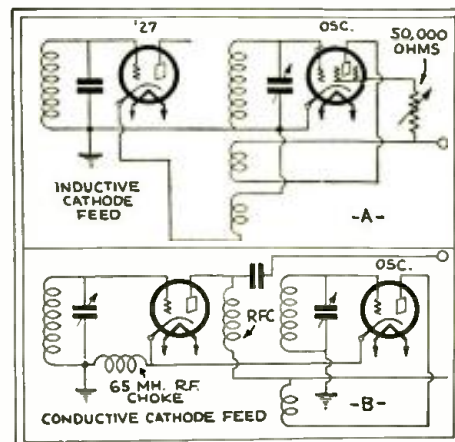

Fig. 3
A number of other systems were tried out, but the choice was finally narrowed down to the two methods shown in Fig. 3. Inductive cathode coupling was first used and, while efficient otherwise, had the effect of reducing the intensity of oscillation on the higher frequencies; necessitating the use of a '24 oscillator with variable voltage on the screen-grid (as shown in Fig. 3 at "A") or some other means of varying oscillation intensity. This means another knob to twist, and is objectionable in that respect; so the final choice is that shown in Fig. 3 at B. The choke R.F.C. is a regular B.C. unit and must not be bypassed. The writer advises that it be mounted directly on the oscillator tube socket without recourse to a mounting screw through its center; as a
Fig. 3 Above, general arrangement of the speech scrambler; below, the corresponding stages of the signal. A, natural speech-band; B, simple inverter-carrier; C, inverted-carrier, modulated; D, low-pass suppression; E, high-pass suppression; F, inverted sideband; G, demodulating carrier; H, inverted- or scrambled-speech-band, as transmitted
To avoid this difficulty, it is necessary to separate the direct and inverted speech sufficiently, in frequency, so that they can be filtered apart. A simplified sketch of the arrangement for doing this is shown in Fig. 3. The speech A (in the frequency graph below) modulates a 20,000-cycle carrier B, producing upper and lower sidebands C. After passing through the low-pass (D) and high-pass (E) filters, only the lower sideband G, which is inverted, remains. Demodulating this with a 15,000-cycle carrier G brings the inverted sideband down to natural speech frequency H, but quite free of any content of the original uninverted speech.